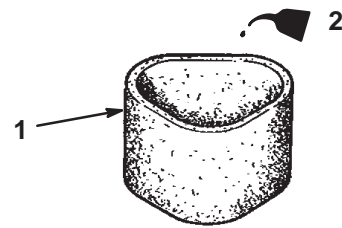

Figure 19
3. Put oil on the element (Fig. 19). Squeeze the element to distribute the oil.